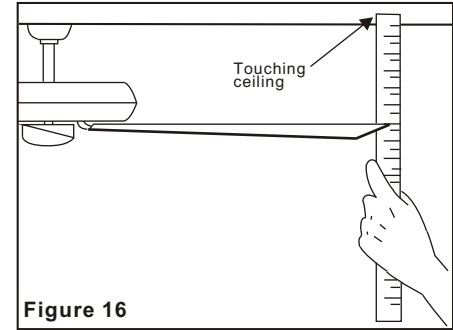

Figure 16
2. Most fan wobble problems are caused when blade levels are unequal. Check this level by selecting a point on the ceiling above the tip of one of the blades. Measure this distance as shown in Figure 16. Rotate the fan until the next blade is positioned for measurement. Repeat for each blade. The distance deviation should be equal within 1/8".